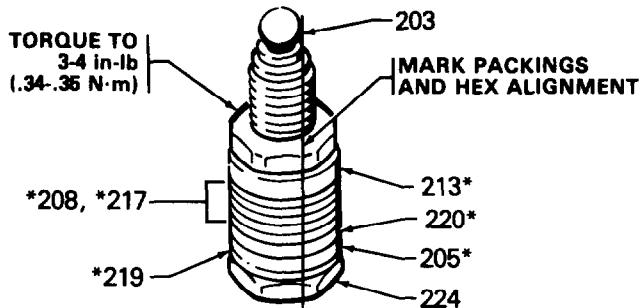

Fig 11
1. Check the outside of the piston rod (223) and the inside of the cylinder (216) for scoring or scratches. If the parts are damaged, new packings will not seal properly. Replace these parts if needed.
2. Stack the backup washer (219\*), wiper (205\*), female gland (220\*), packings (217\*, 208\*) and male gland (213\*) onto the piston valve. See Figures 11 & 12.
3. Tighten the packing retaining nut (214) onto the piston valve (224) and torque to 3 to 4 in-lb (0.34 to 0.35 N·m)—about finger tight.
4. Use a pen to make a light mark on the packings where they align with one of the flats on the nut. See Fig 11.